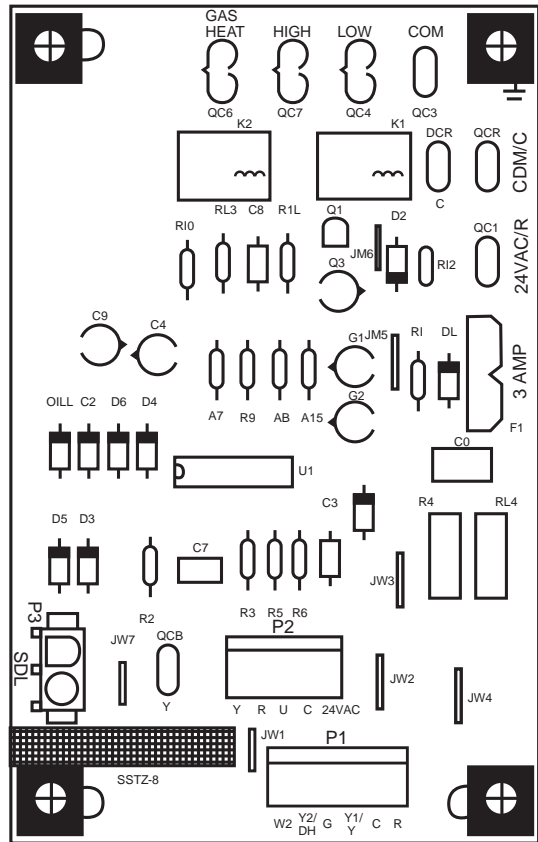

Fig. 23 – Interface Fan Board (IFB)
This unit is factory-set for use with a single cooling fan speed. For single phase models, the cooling speed is marked “COOL” on the IGC (See Fig. 22). For 3-phase models, the cooling speed is marked “LOW” on the interface board (IFB) (See Fig. 23). The factory-shipped settings are noted in Table 10 and Table 11. There are up to 3 additional speed tap wires available for use in either gas heating mode, cooling mode, or continuous fan mode (For color coding on the indoor fan motor leads, see Table 8). For single phase models, one of the additional speed tap wires is connected to the continuous fan, with the other 2 wires shipped loose in the control box near the IGC. For three phase models, the additional 3 speed tap wires are shipped loose with vinyl caps and are located in the control box near the interface fan board (IFB) (See Fig. 23).
2. Remove the current speed tap wire from the “GAS HEAT” terminal on the interface fan board (IFB) (Fig. 23) and place vinyl cap over the connector on the wire.
2. Remove the current speed tap wire from the “LOW” terminal on the interface fan board (IFB) (See Fig. 23) and place vinyl cap over the connector on the wire.
1. Remove fan speed tap wire from the “LOW” terminal on the interface fan board (IFB) (See Fig. 23).
When the DEHUM feature is not used, the continuous fan speed will be the same as cooling fan speed. When the DEHUM feature is used, the continuous fan will operate on IFB “LOW” speed when the DH control lead is not energized, or IFB “HIGH” speed when the DH lead is energized (see Fig. 23).